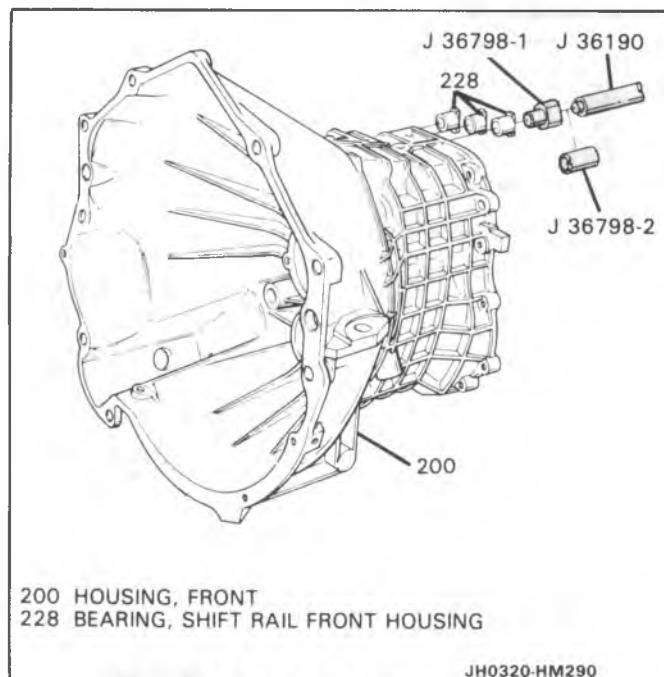

Figure 47 Shift Rail Bearings Install
1. Ball bearing outer race (216), using brass drift.
2. Three shift rail front housing bearings (228), using J 36798-1 and J 36190 (Figure 47).